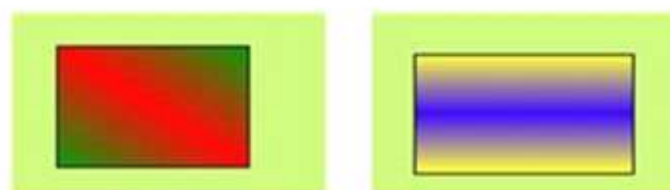

Figure 4-37: An example of a rectangle drawn
- You may adjust the properties of the rectangle using the pull-down and fine tuning button. SamDraw provides 15 frame line types, 10 frame line widths, and 21 filling patterns for rectangle to make the graph more beautiful and vivid. See Figure 4-37.